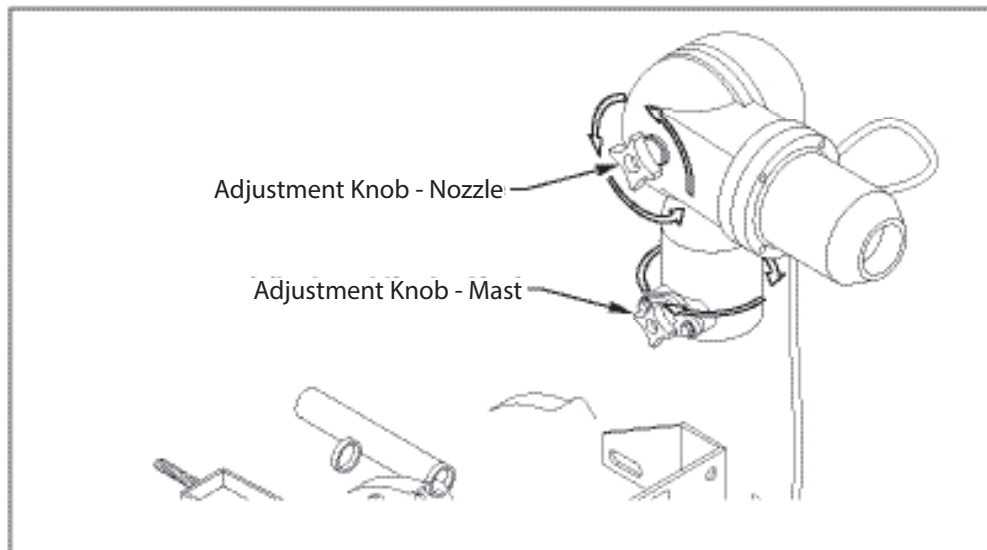

Figure 7 - Nozzle Position
10. Verify that the nozzle is in the correct position for spraying. The nozzle is adjustable both horizontally and vertically. To rotate the nozzle, loosen the appropriate knob on the side of the mast or side of the nozzle head and rotate the nozzle. Retighten the knobs after adjustment. Reference Figure 7.